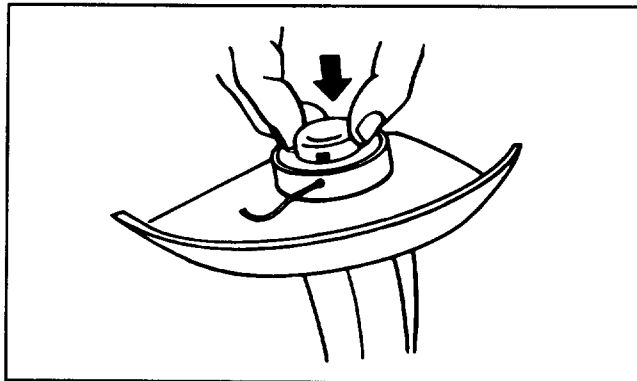

Figure 22
3. If line should tangle or break at eyelet, refeed cutting line through eyelet by pushing spool in as far as it will go and threading line back through eyelet. Or you may remove spool completely, refeed the line through the eyelet, and reassemble spool to trimmer (Fig. 22).